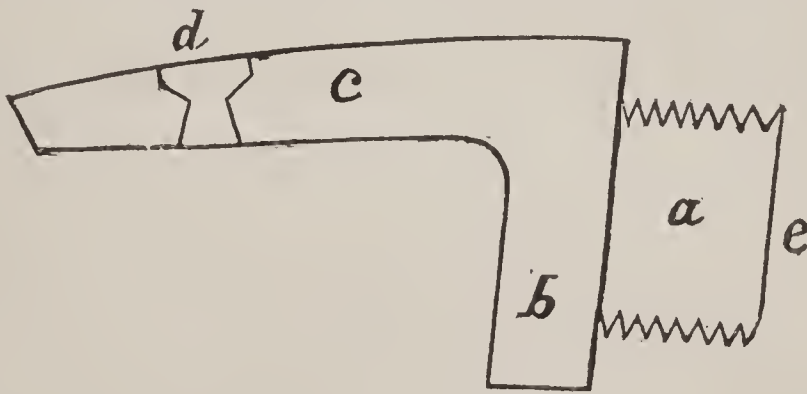

FIGURE 86.
*Nomenclature of the Breech-Pin.*—Fig. 86 shows full size of musket-barrel breech-pin. *a*, plug with threads; *b*, tenon; *c*, tang; *d*, tang-screw hole; *e*, face.